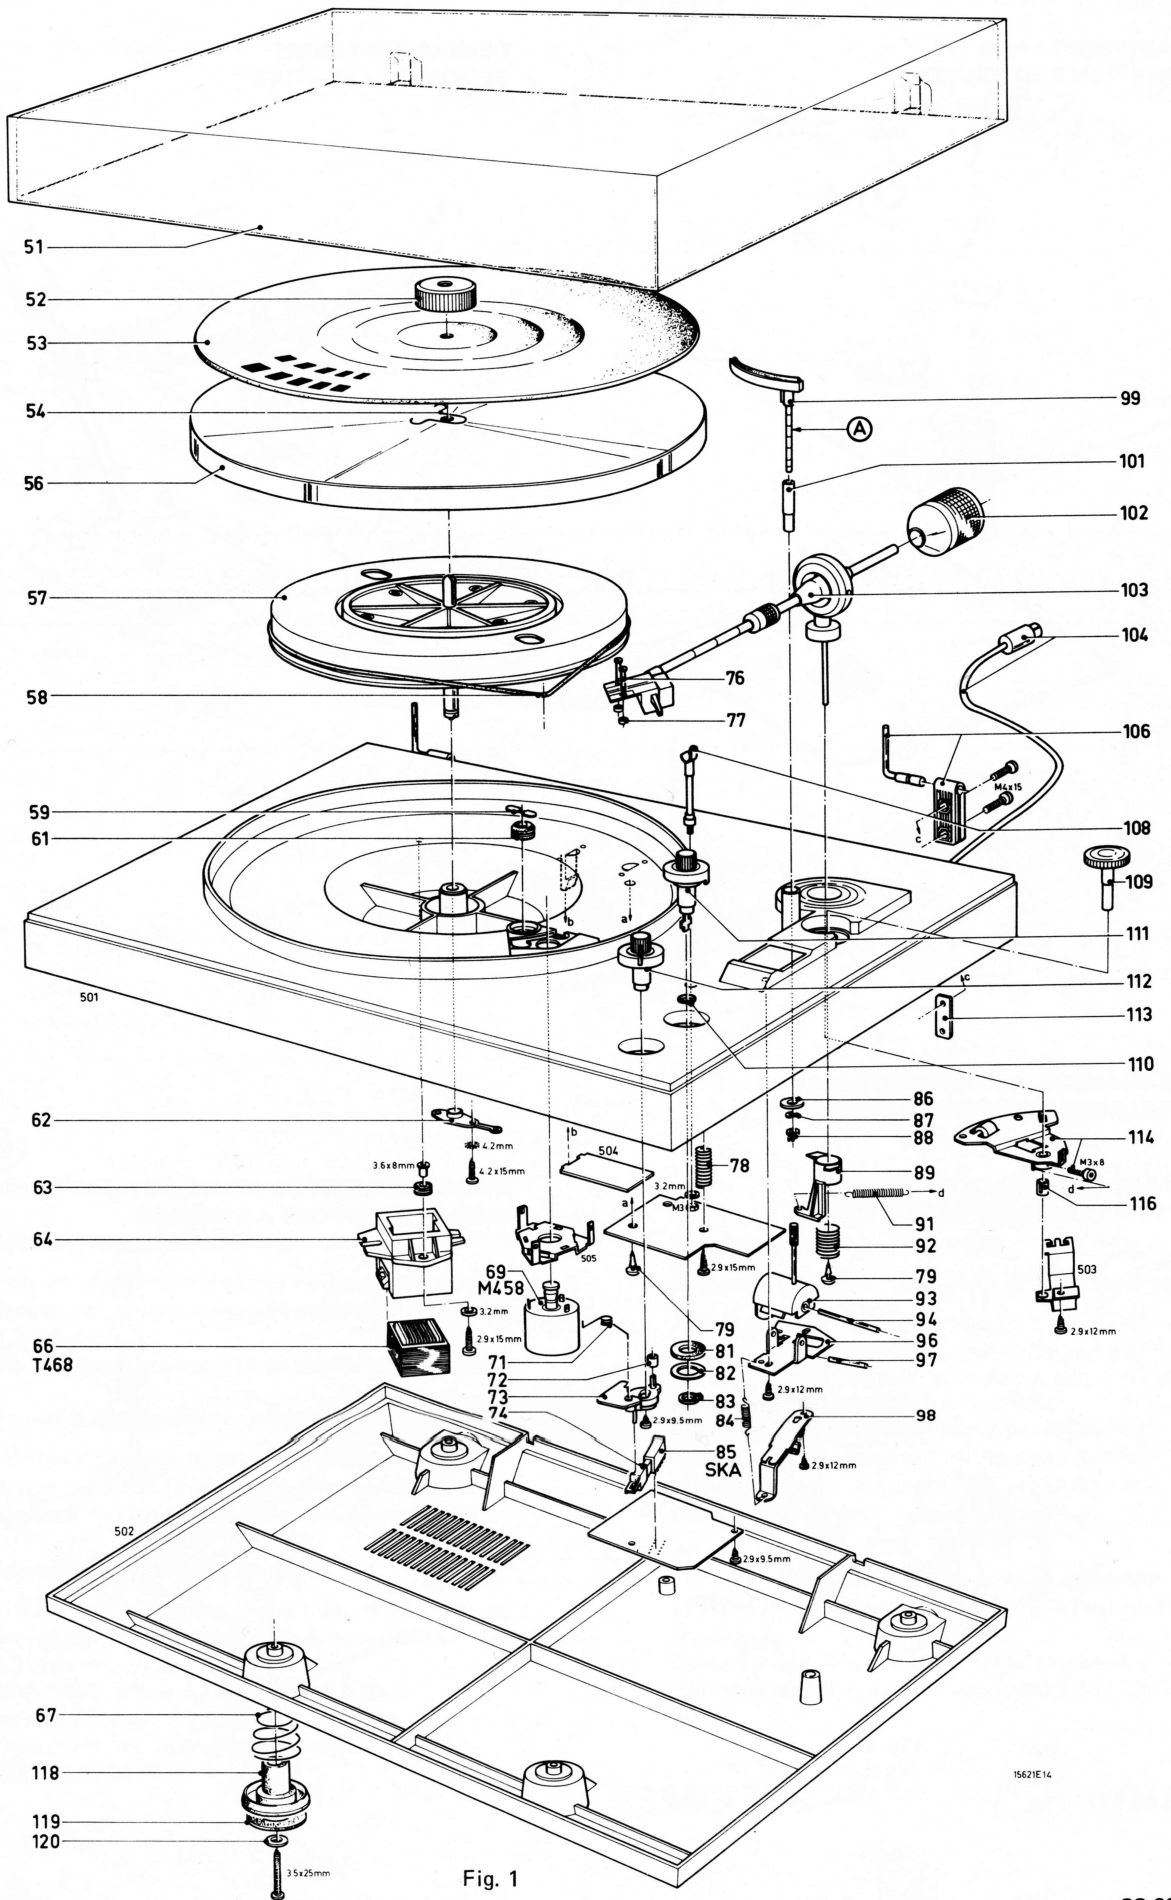

Fig. 1
- A. Place PU-arm 103 into PU-arm support 108 (Fig. 1)
- A. Lift PU-arm 103 from PU-arm support 108 (Fig. 1).
**4. Adjusting the speeds (Figs. 1,8,9)**